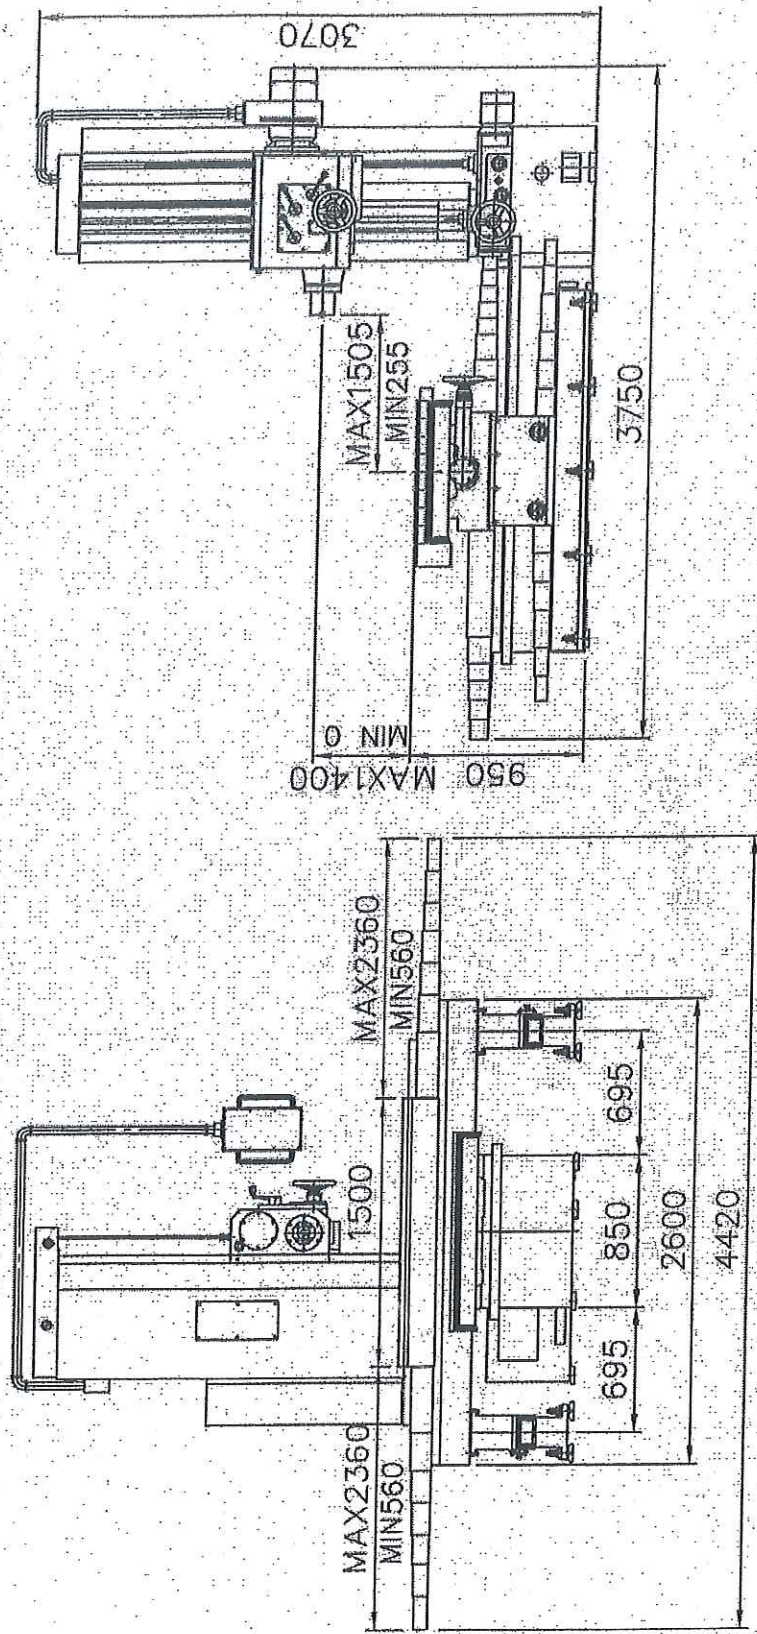
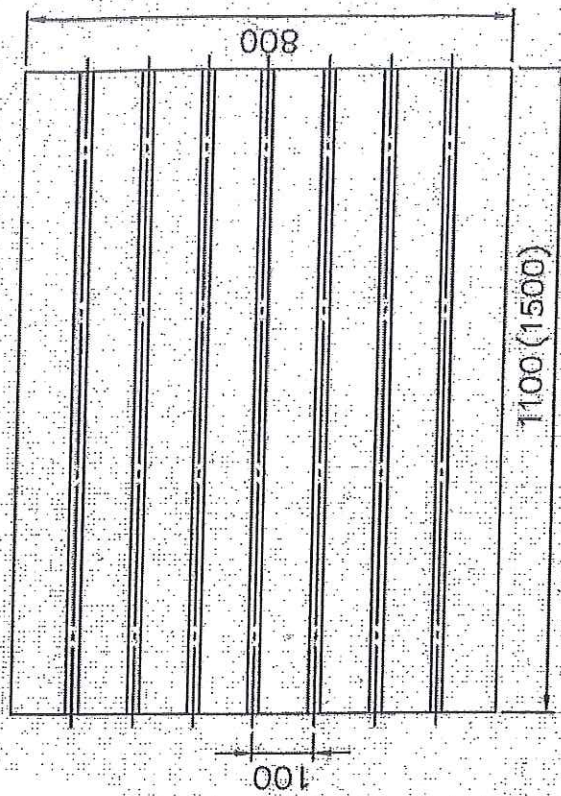

Fig.4 Dimension of Table
Fig.5 Dimension of T-Slot
1.5 Dimension drawings of Table(fig.4) & T-slot(fig.5) & Spindle Nose (fig.6)	P.5